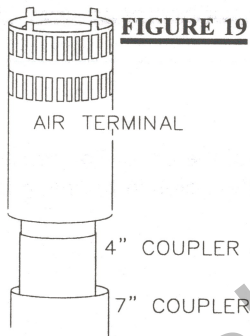

FIGURE 19
4. Apply high temperature sealant to the outer edge of the of the outside sleeve of the air terminal. Slip a 7" diameter coupler over the sleeve and secure as before. **FIGURE 19**. Trim the 7" coupler even with the 4" coupler end.